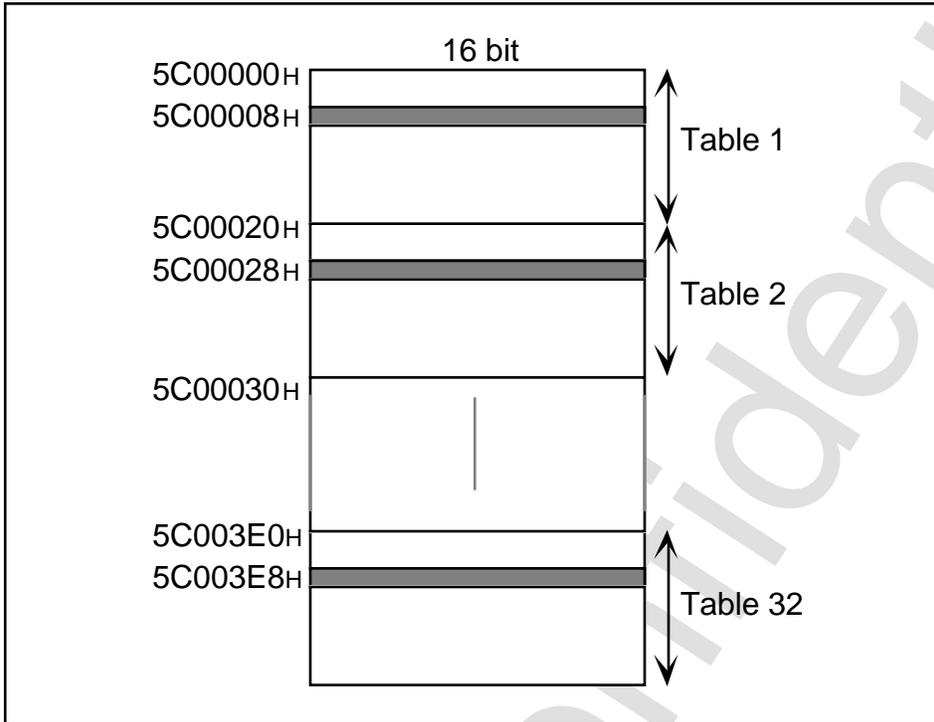

Figure 2.10 DMA Transfer by Setting Address Add Value
- 6) Set the DMA enable bit to 1. DMA is activated when the starting factor set in step 5) occurs and the slanted line area in Figure 2.10 is rewritten once.